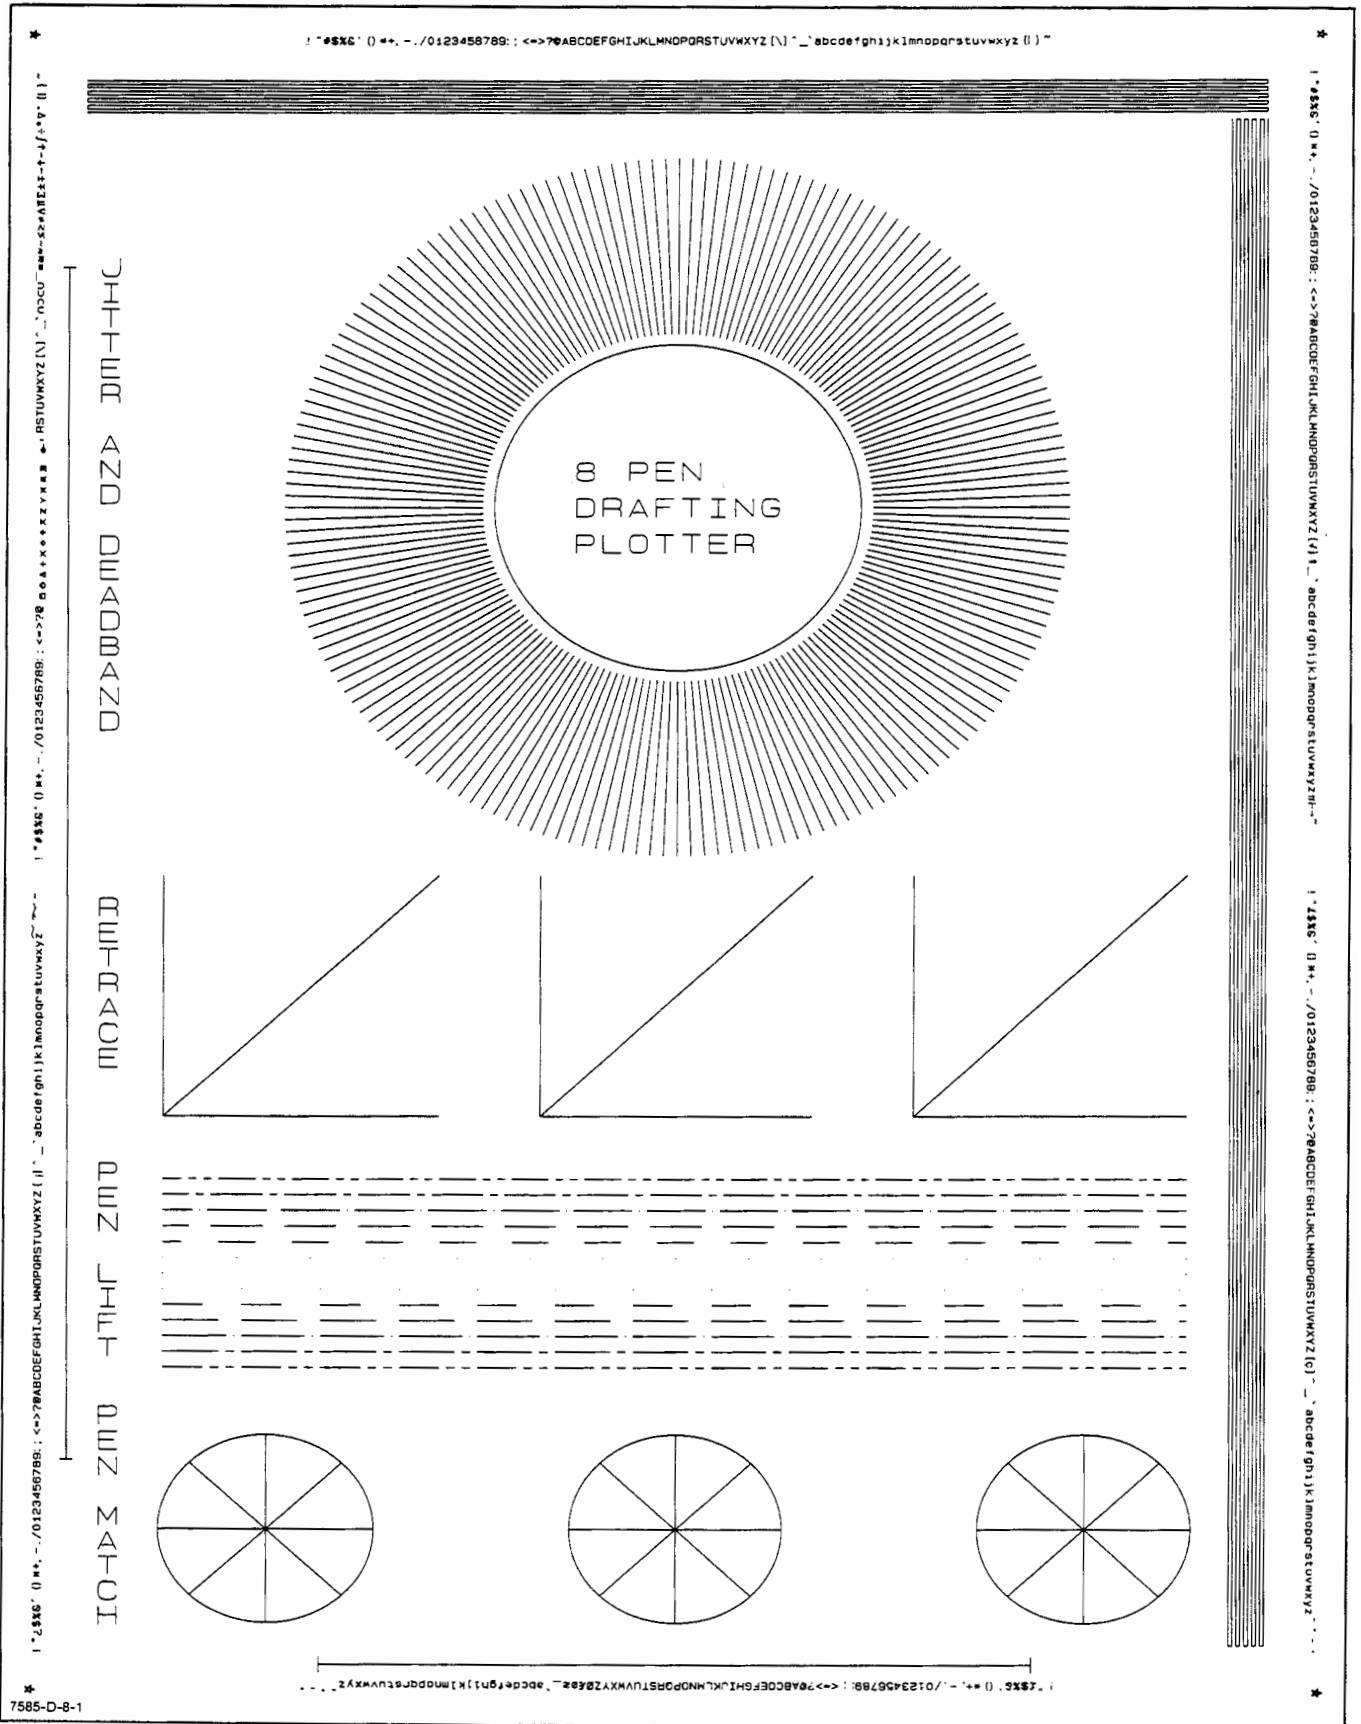

Figure 2-4. Confidence Test Plot (Single sheet)
- f. Press the CONFIDENCE TEST switch on the rear panel. The plotter will automatically sense the paper edges and begin the confidence test plot. The single sheet confidence test plot is shown in Figure 2-4. Long-axis (roll feed) confidence test is shown in Figure 2-5.
- b. Use an optical comparator and measure the difference between the position of the first set of stars generated in each corner of the plot with the second set of stars drawn over the first set. Repeatability should be within 0.10 mm (0.004 in.). See Figure 2-4.